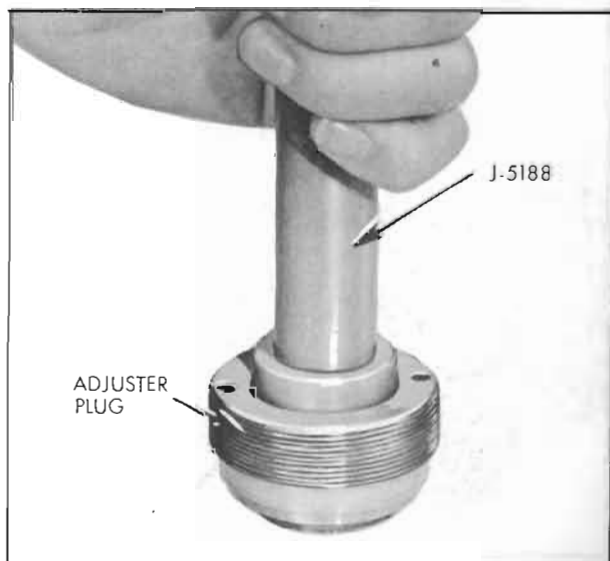

Figure 8-33—Installing Stub Shaft Seal
2. Lubricate new stub shaft seal with automatic transmission oil and install seal with spring in seal toward adjuster plug using Tool J-5188. See Figure 8-33. Install seal only far enough in plug to provide clearance for dust seal and retaining ring. Place new dust seal with lip up in plug, then install retaining ring with No. 3 Truarc Pliers, J-4245.